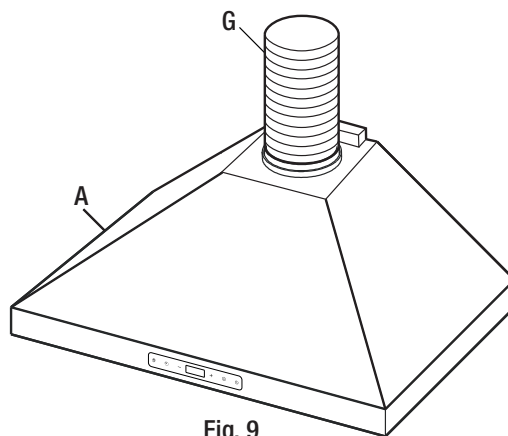

Fig. 9
- Place the upper chimney (C) inside the lower chimney (B) and place them both onto the range hood. Hang the lower chimney (B) on the lower support bracket (F) as shown in figure 9.